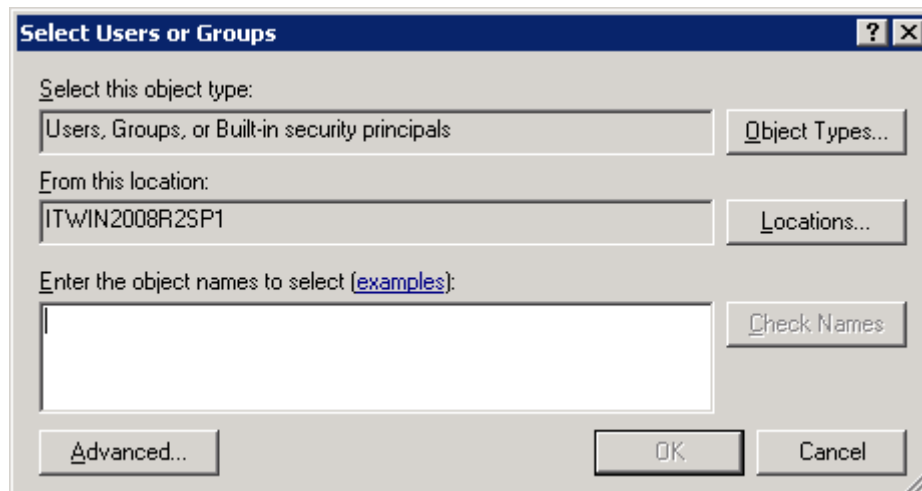

Figure 59 - Add Users and Groups Window
12. The **Select Users or Groups** window (Figure 59) appears.